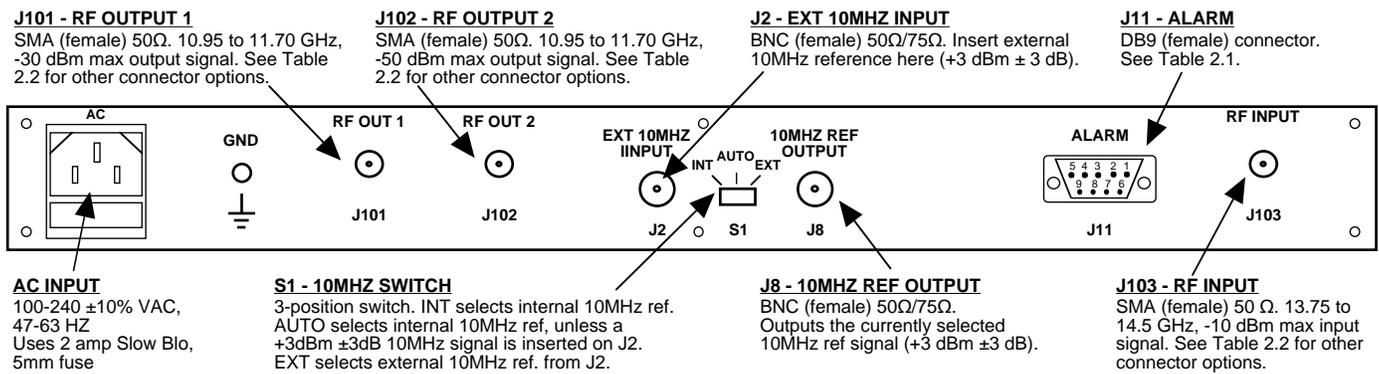

FIGURE 2.1 2116-13T11 Rear Panel I/O's
Figure 2.1 shows the input and output connectors on the rear panel.
1. Connect a -30 dBm to 0 dBm signal to RF INPUT (J101) (Figure 2.1).
5. Select either INT. (for internal 10MHz ref), AUTO (for internal 10MHz ref UNLESS an external 10MHz, 3 dBm signal is connected to J2), or EXT (for external 10MHz, 3 dBm ref that is inserted at J2) using the rear panel 3-way switch, S1 (Figure 2.1).
7. Check that a 10MHz, 3 dBm \pm 3 dB signal is present at the 10MHZ REF OUTPUT (J8) (Figure 2.1).